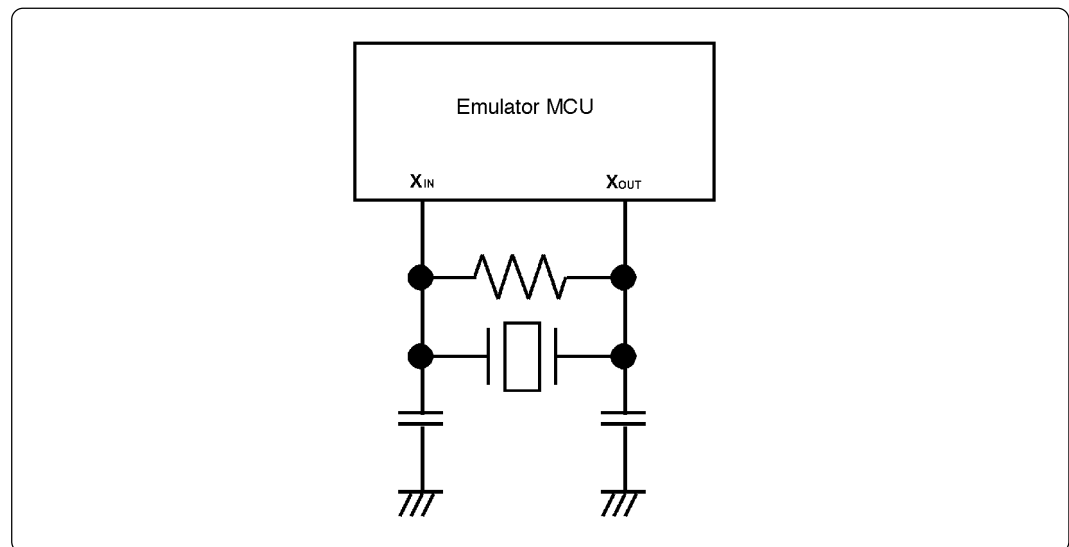

Figure 3.2 Circuit in which oscillation does not occur
- Make note of the fact that in the oscillator circuit shown in Figure 3.2 where a resonator is connected between the  $X_{IN}$  and  $X_{OUT}$  pins, oscillation does not occur because a flexible cable, buffer IC and other devices are used between the evaluation MCU and the target system.